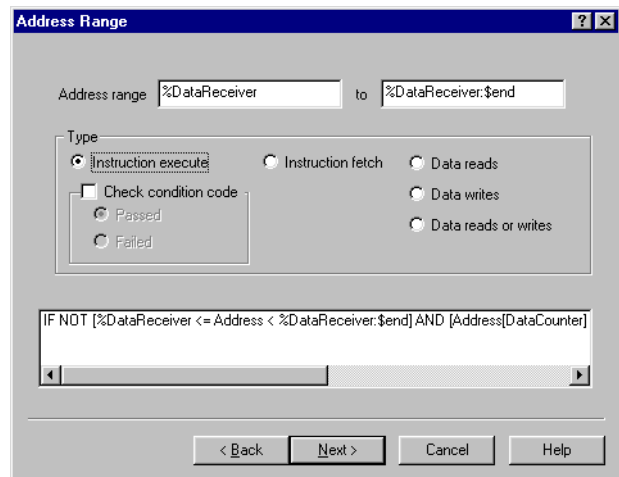

Figure 8-17 Address Range dialog box
8. Click on **Next>**. The Address Range dialog box shown in Figure 8-17 is displayed.